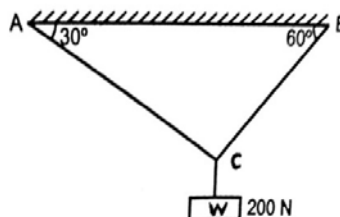

Fig. No. 1
- a) Calculate tension in strings if a weight 200 N is attached by two strings AC and BC as shown in Fig. No.1